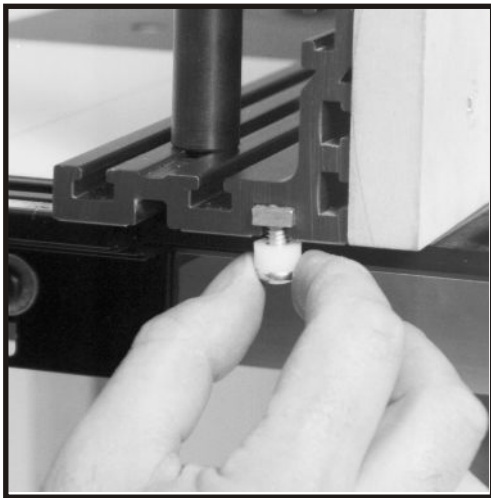

FIG. 11
12. Slide the square nut into the front T-slot under the left end of the fence (Fig. 11). Leave the assembly loose and approximately 1" in from the end of the fence.